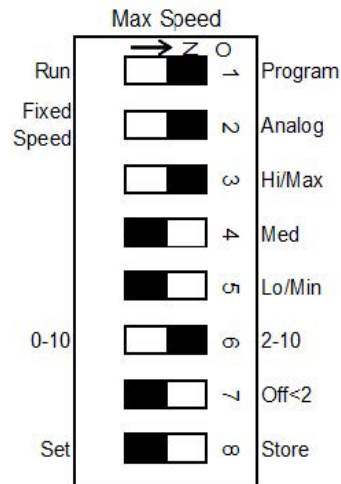

FIGURE 21 - MAX SPEED ADJUST
3. Max Speed Adjust: Set configuration switches to HI/MAX SPEED balancing mode (see *Figure 21 on page 30*). Switches to ON-ON-ON-OFF-OFF-ON-OFF-OFF.
- **STORE:** Set switch 8 to Store (ON), wait one second, then to Set (OFF), to save the value.